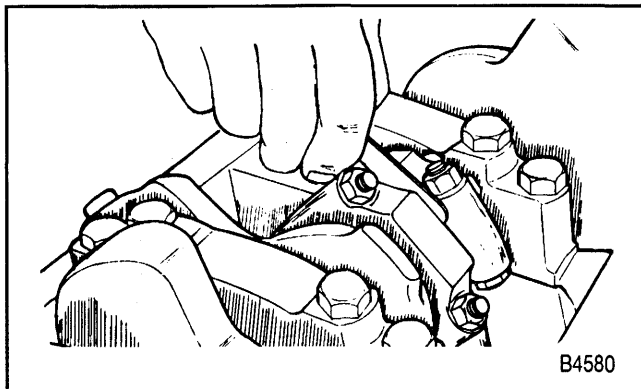

Figure 29—Measuring Connecting Rod Side Clearance
- Connecting rod side clearance. Use a feeler gage between the connecting rod and crankshaft (figure 29). The correct clearance is 0.013-0.023 inch.